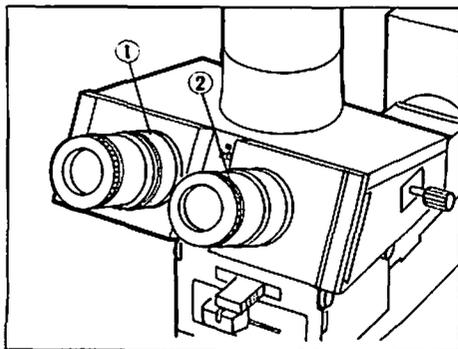
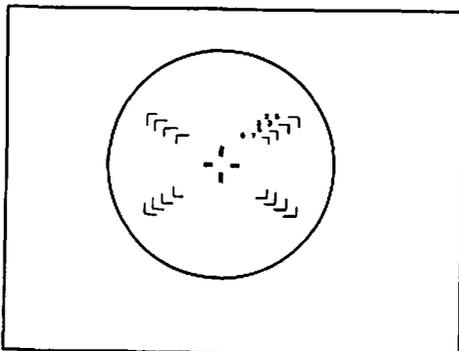

Fig. 50
Fig. 51
(Fig. 50)
When a Field-of-view Eyepiece ([35]WHK10X) is used with the Trinocular Tube (BH2-TR30/BH2-TTR) (Figs. 50, 51)
1. Looking through the field-of-view eyepiece with the right eye, rotate the knurled collar ② on the eyepiece (Fig. 50) until the double reticle lines (Fig. 51) can be sharply distinguished as two separate lines. Then bring the specimen into focus using the coarse and fine focus adjustment knobs.
2. Looking through the left eyepiece with the left eye, rotate the dipter adjustment ring ① (Fig. 50) to bring the specimen into focus.
1. Looking through the right field-of-view eyepiece with the right eye, rotate the knurled collar ③ on the eyepiece until the double reticle lines (Fig. 51) can be sharply distinguished as two separate lines.
3. Looking through the left eyepiece, rotate the knurled collar ④ on the eyepiece to bring the specimen into focus.